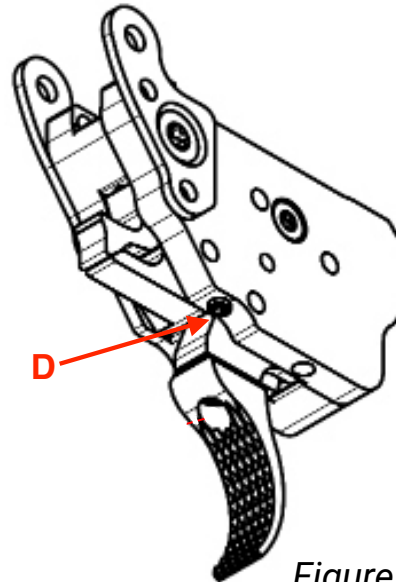

Figure 2
Figure 2 illustrates the location of screw D.
- Insert the **1.5 mm hex wrench** into **screw D** (see *Figure 2*).